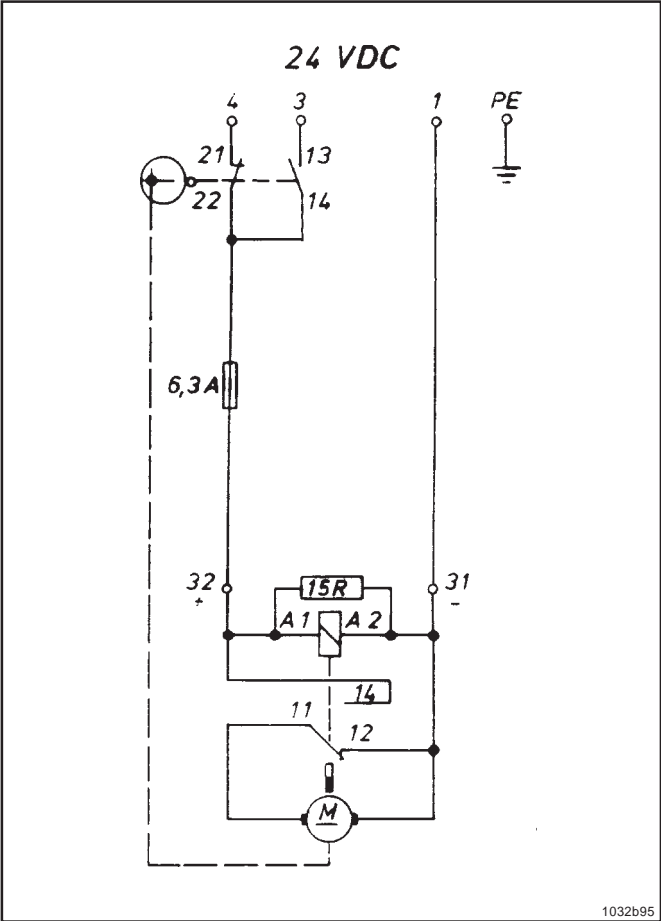

Fig. 6: circuit diagram 24 V DC version
- Perform the electrical connection of the change-over valve EM-U2 according to Fig. 6